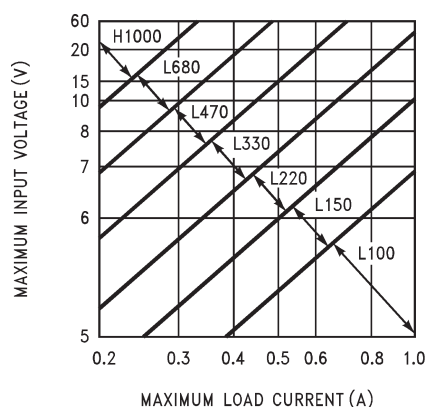
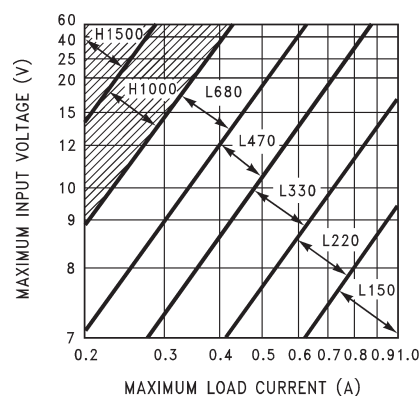
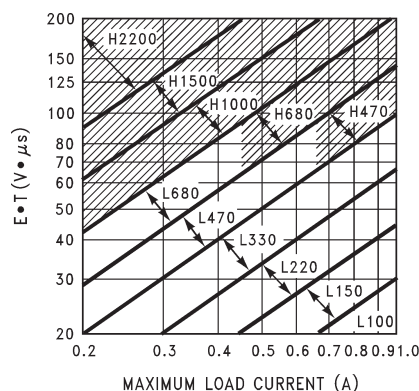

Figure 12. TL2575-33
Figure 13. TL2575-50
Figure 14. TL2575-ADJ
1. Inductor Selection (L1) A. From Figure 12 through Figure 14 , select the appropriate inductor code based on the intersection of $V_{IN(\text{Max})}$ and $I_{LOAD(\text{Max})}$. B. From Table 2 , choose the appropriate inductor based on the inductor code. Parts from three well-known inductor manufacturers are given. The inductor chosen should be rated for operation at 52-kHz and have a current rating of at least $1.15 \times I_{LOAD(\text{Max})}$ to allow for the ripple current. The actual peak current in L1 (in normal operation) can be calculated as follows: $I_{L1(pk)} = I_{LOAD(\text{Max})} + (V_{IN} - V_{OUT}) \times t_{on}/2L1$ Where $t_{on} = V_{OUT}/V_{IN} \times (1/f_{osc})$	1. Inductor Selection (L1) A. From Figure 13 (TL2575-05), the intersection of 20-V line and 1-A line gives an inductor code of L330. B. L330 → L1 = 330 μH Choose from: 34042 (Schott) PE-52627 (Pulse Engineering) RL1952 (Renco)